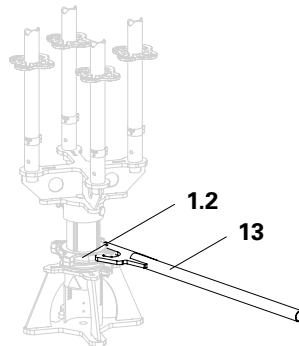

Fig. A5.11a
1. Turn adjusting nut (1.2) downwards with Wing Nut Spanner HD (13). (Fig. A5.11a)